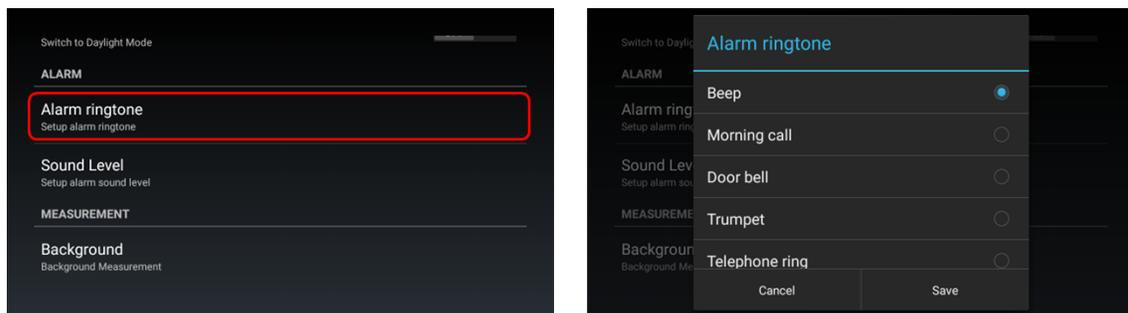

Figure 5.7. Select ringtone
The SAM 950 provides five alarm ringtone options as shown in Figure 5.7. below.
1. Select ‘Alarm ringtone’ (figure 5.7)